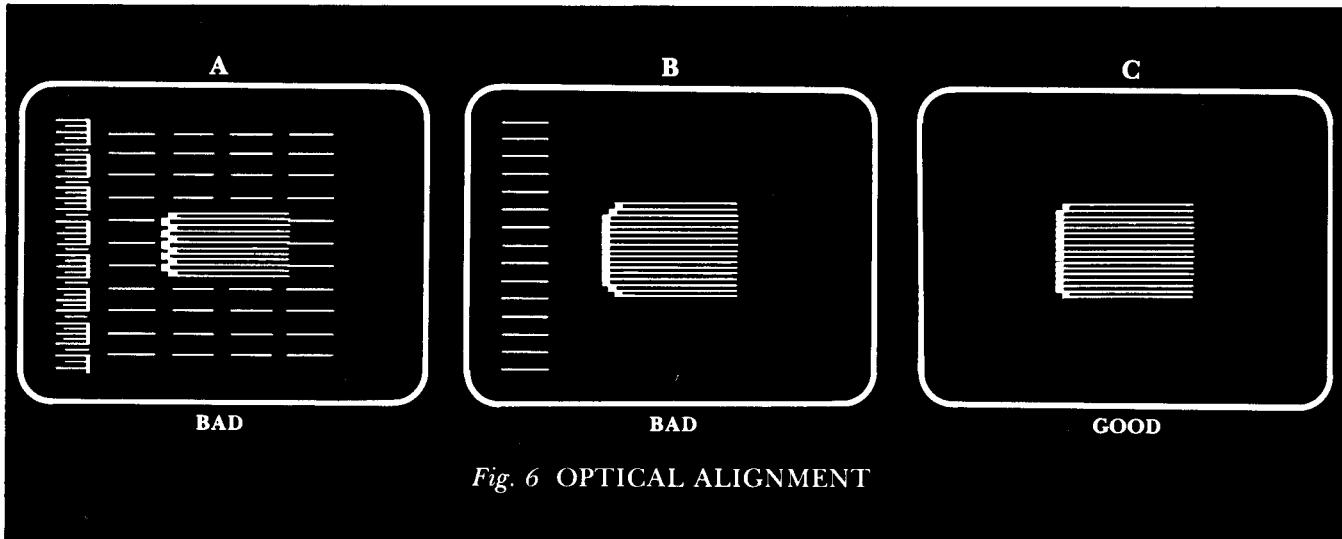

Fig. 6 OPTICAL ALIGNMENT
6. Aim the Gun to the center of the screen, an orange rectangular pattern with a brown leading edge should be displayed (See Fig. 6-C).
7. Turn sensitivity control CCW until oscillation and an orange rectangular pattern are displayed (See Fig. 6-A). Now turn sensitivity control CW until oscillation diminishes just beyond this oscillation point (See Fig. 6-B), from this point turn sensitivity control CW approx.  $\frac{1}{4}$  turn more. This should be the optimum setting.